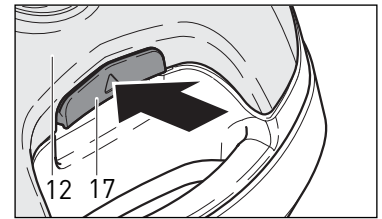
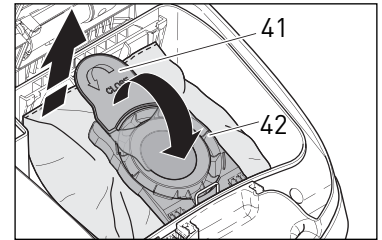

Figure 20
Figure 21
## Changing the Filter Bag - Figures 20, 21 & 22
To change the filter bag (40), lift the filter bag release catch (17, figure 20) then lift open the filter bag cover (12). Seal the used filter bag with the sealing cap (41). Tilt the green sealing plate collar up (42, figure 21) and lift the bag out. Slide the front of the sealing plate (42) of a new bag vertically into the bag holder (43, figure 22). Line up the sealing plate so that the U-shaped metal spring (44) is positioned in the slot (44) of the collar and tilt it back into place. Close the cover, making sure it snaps shut completely. The cover will not close if the bag is inserted improperly. Do not re-use the filter bags. **Note:** the nature of the contents of the filter bag will affect the point at which it needs changing. Fine dust may require an earlier change even though the bag is not full. Fluff or hair allows air to pass through easily, so the filter bag may overfill before the “bag full” indicator turns orange.
The pre-motor filter (46) needs to be changed when it becomes extremely dirty or clogged with dust, or after approximately 10 to 20 filter bags have been used. To change the pre-motor filter, lift the filter bag release catch (17, figure 20), lift open the filter bag cover (12) and remove the filter bag. Grasp the tab at the bottom of the filter (47, figure 23) and pull the filter out and up. When the filter is horizontal, lift it out of the holder (48). Insert the new filter into the holder horizontally (48) then swing it downward until the tab (47) locks into place. Replace the filter bag and the filter bag cover.